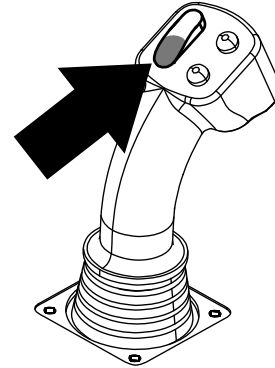
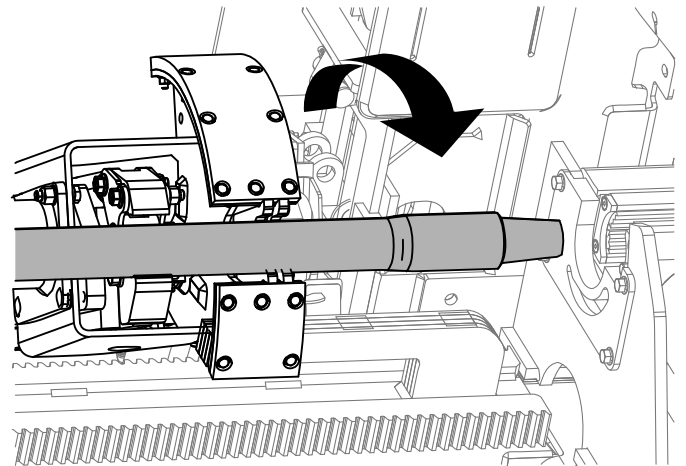

Figure 29
Figure 30
5. Hold the lower section of the rocker switch (Figure 29) until the cam assembly fully rotates forward to the rack and the elevators lift the remaining pipe into the pipe box (Figure 30).